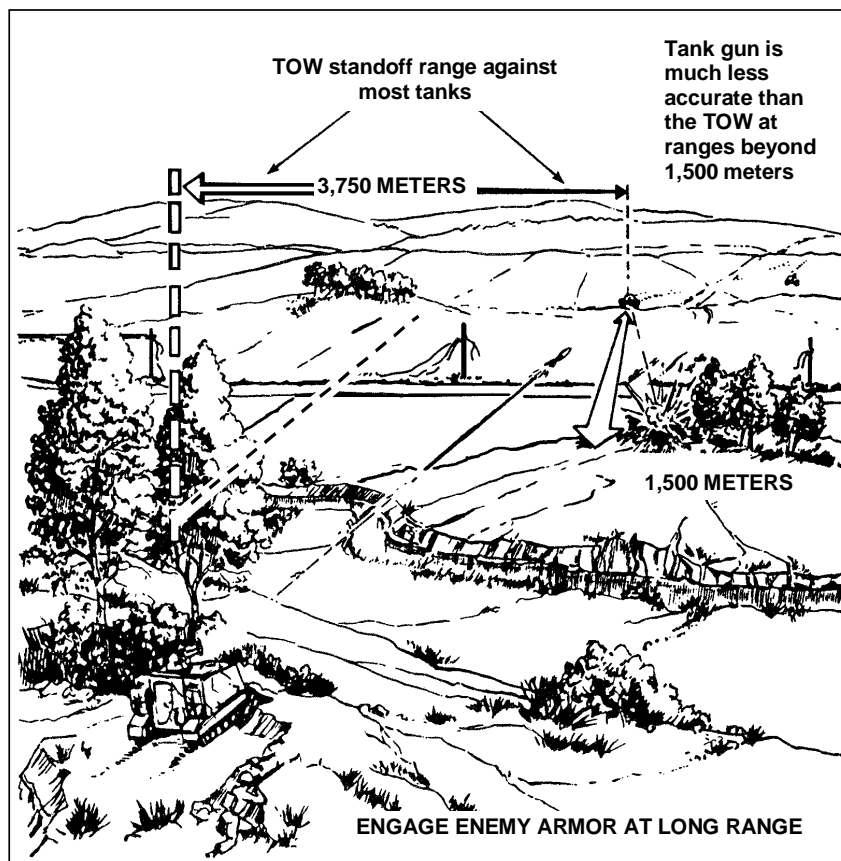

Figure 3. Exploit TOW range.
2. Exploit TOW range. The greatest advantage of the TOW is its accuracy over most tanks at ranges beyond 1,500 meters. The major limitation is that the TOW crew is exposed to enemy suppressive fires while firing. Therefore, the principal factors to consider when positioning TOW for employment are twofold (Figure 3):